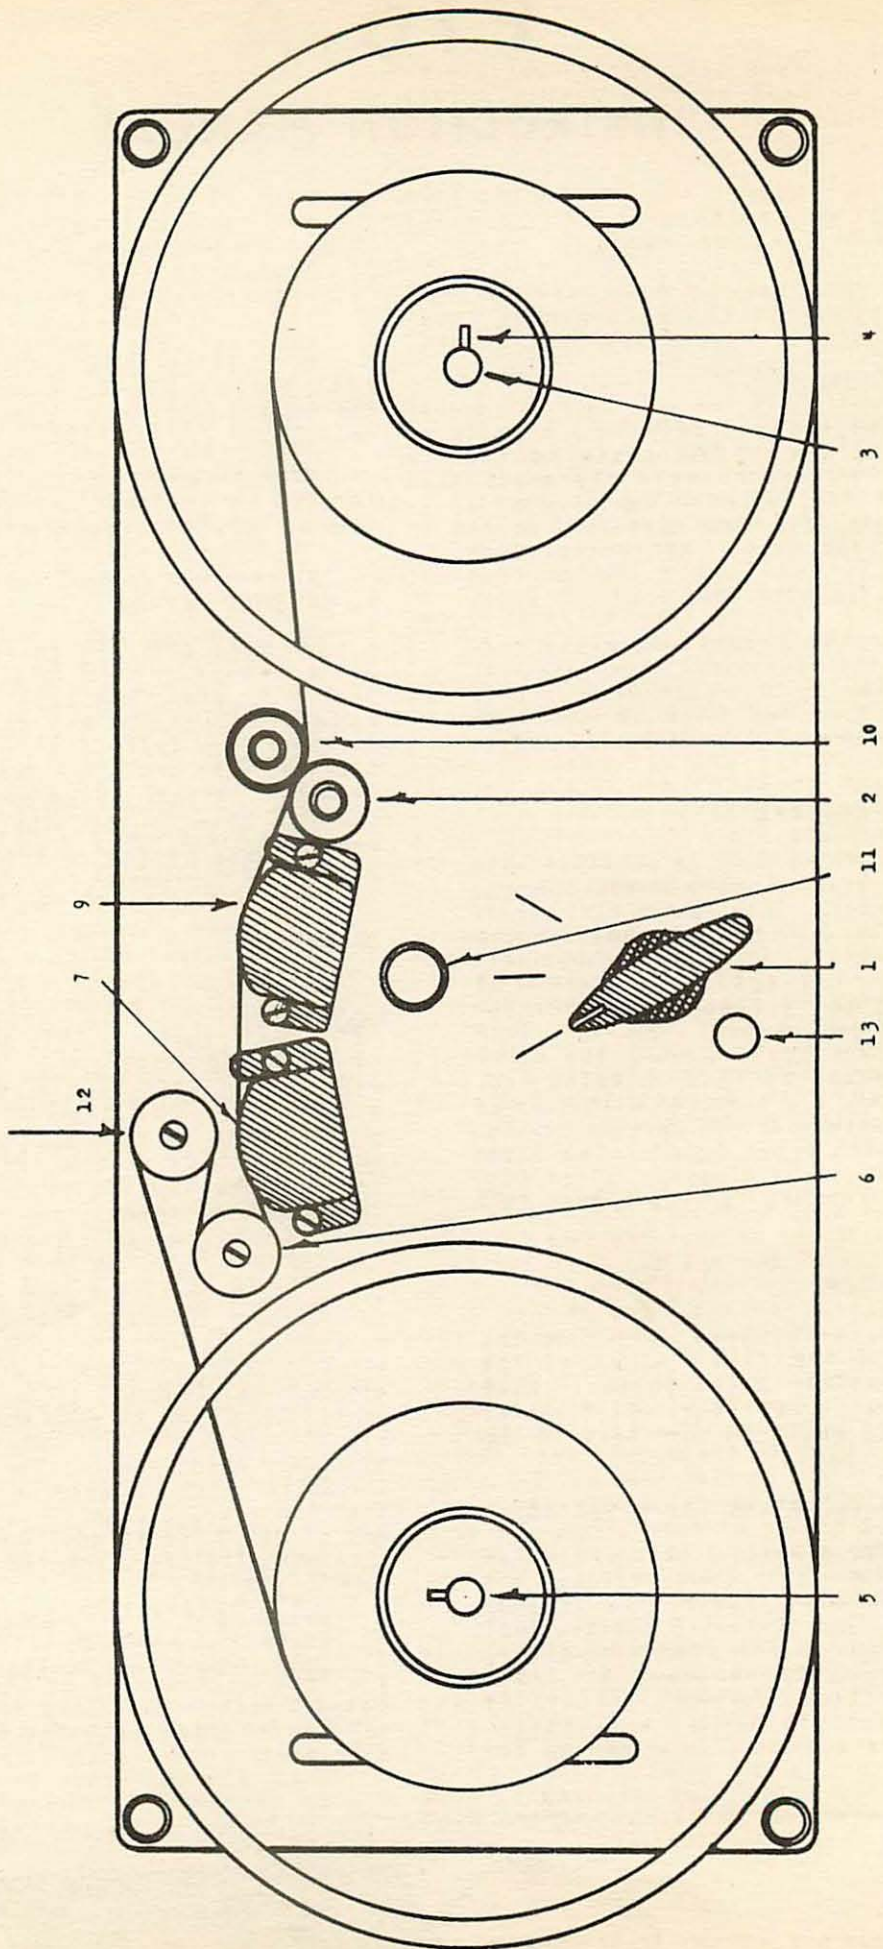

FIGURE 1
(1) Make sure the oscillator tube located in the rear and at the right side is secure in its socket.
(2) Set the control knob (1 in Fig. 1) to "STOP".
(3) Make sure the correct capstan and pressure roller (2 & 10 in Fig. 1) are in place and that the knurled retaining screws are screwed down firmly. The small (7½"/sec) capstan operates with the large rubber covered pressure roller. Make sure that the tapered hole in the capstan and the tapered shaped capstan shaft are completely free of dirt or foreign particles before installing the capstan.
(1) Place the empty reel on the take-up spindle (3 in Fig. 1). Before a reel can be installed on the spindle it is necessary to remove the reel retainer by pushing it toward the unit and turning slightly counter-clockwise until the pins are released from the slots. Place the empty reel on the take-up spindle (3 in Fig. 1). Put the reel retainer on the shaft and push in until the 3 pins are in contact with the spindle. Make sure that the pins go down the slots in the end of the spindle and then turn the retainer slightly clockwise until it is locked in place.
(2) Place a loaded reel of tape on the supply spindle (5 in Fig. 1). The reel should be oriented so that the tape will unwind as the reel rotates clockwise. Tape should come off top of spool with coated, or dull side down.
(3) Turn the supply reel clockwise by hand so that approximately 18 inches of tape or leader will unwind.
(4) Insert the end of the tape or leader in the slot on the inside of the take-up reel.
(5) Rotate the take-up reel clockwise until there are at least two full turns of tape on the reel.
(6) Slip the tape into its normal travel path; under the idler (6 in Fig. 1); over the erase head (7 in Fig. 1); over record-reproduce head (9 in Fig. 1); between capstan (2 in Fig. 1) and pressure roller (10 in Fig. 1).
(7) Rotate take-up reel to remove slack.
(8) Connect the unit to the Magrecorder PT6 amplifier. Note: If the PT6-A is to be used with some other amplifier, 117 volt 60 cycle AC must be supplied to the motors; and filament power at 6.3 volts .3 amperes and plate supply of 300 volts at 40 ma must be supplied to the oscillator tube. See schematic.
(9) Turn the control knob to "FORWARD". This puts the unit into forward operation at a speed determined by the capstan being used. If the tape does not move smoothly between the capstan and pressure roller, lift the pressure roller slightly to permit the tape to align itself properly.
(10) To rewind the tape, turn the control knob to "STOP", then place tape over lift bar so that the tape is lifted clear of the heads. Turn the control knob to "REWIND". The rewind mechanism, driven by a shaded pole motor, will completely rewind 1200 feet of tape (full 7½" reel) in approximately 40 seconds. The loaded reel will rotate at an increasingly higher speed as the tape is transferred back to the supply reel during rewind. The control knob may be turned to "STOP" at any time during rewind without danger of tape throw. Be sure that the tape is lowered to its normal position on the heads before attempting to record or reproduce.
(11) The bias indicator light (11 in Fig. 1) will glow when the oscillator tube plate supply voltage is applied through the Jones male connector. If the PT6-A is being used with any of the Magnecord PT6 Series amplifiers, the light will go on when the amplifier Selector Switch is turned to "RECORD". An inter-lock in the PT6-A will turn off the oscillator and the lamp whenever the PT6-A control is turned to "STOP" or "REWIND". See schematic.
The bias indicator lamp (11 in Fig. 1) will glow when plate supply voltage is being supplied to the oscillator tube. This indicates that any previous recording on the tape is being erased and a new recording may be made.